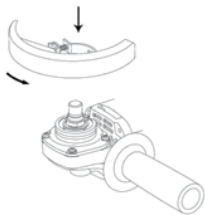

Fig. 1
1) The auxiliary handle (1) can be fitted to the left or the right or the above. Select the position which gives the most comfortable and safe use.
2) Fitting the grinding guard or cutting guard: (See fig.1 and 2)